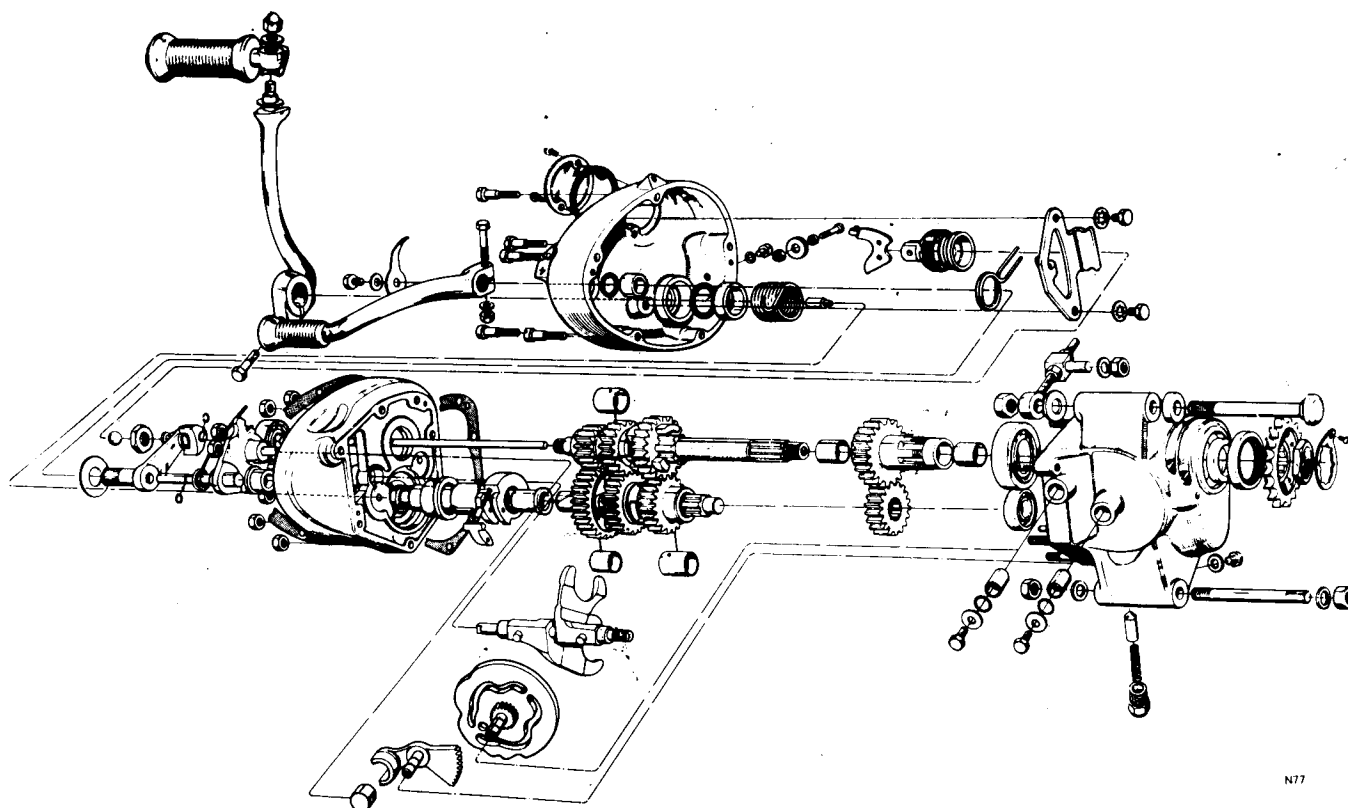

Fig. D4 Gear layout
- 14 Assemble the mainshaft 3rd gear with selector fork to the mainshaft (selector fork groove side outwards) and engage the pin with the inboard cam track (see *Fig. D4*).